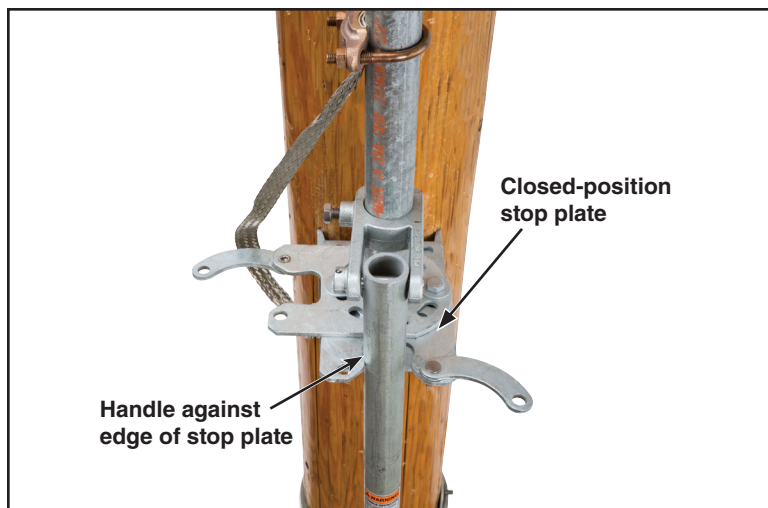
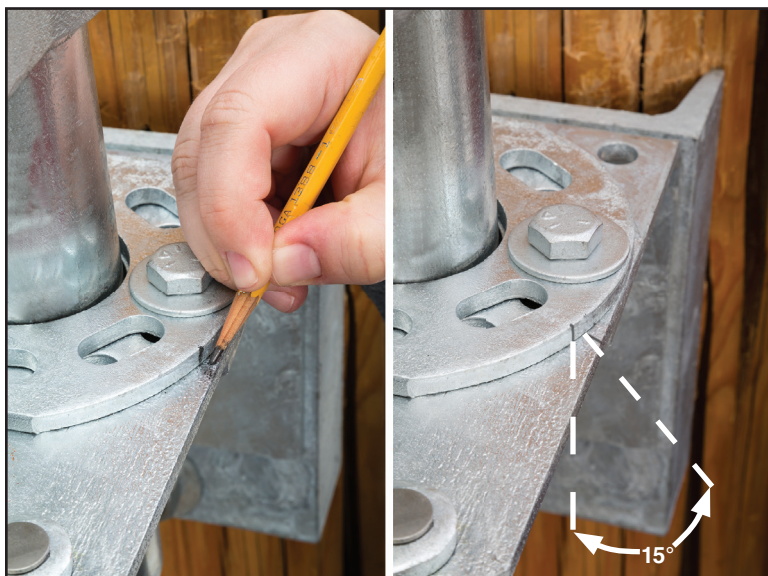

Figure 25. Adjust the Closed-position stop plate.
Figure 26. Mark the stop plate, then loosen the hardware and rotate the closed stop plate backward approximately 15 degrees.
- (b) The stop plate holes are slotted to allow room for adjustment. Position the operating handle in the stop plate, and turn the operating handle as far as it will go in the closed position. (Counterclockwise is standard on switches using the rotating operating mechanism.) The handle should be tight against the edge of the stop plate. See Figure 25. Mark the position of the closed stop plate. See Figure 26 (left).
- (c) Lift the handle out of the way and rotate the stop plate an additional 15 degrees counterclockwise from the mark. See Figure 26 (right). Make sure the open stop plate lines up with the mark made in Step 27. Tighten the stop plate hardware to 40 ft-lbs.